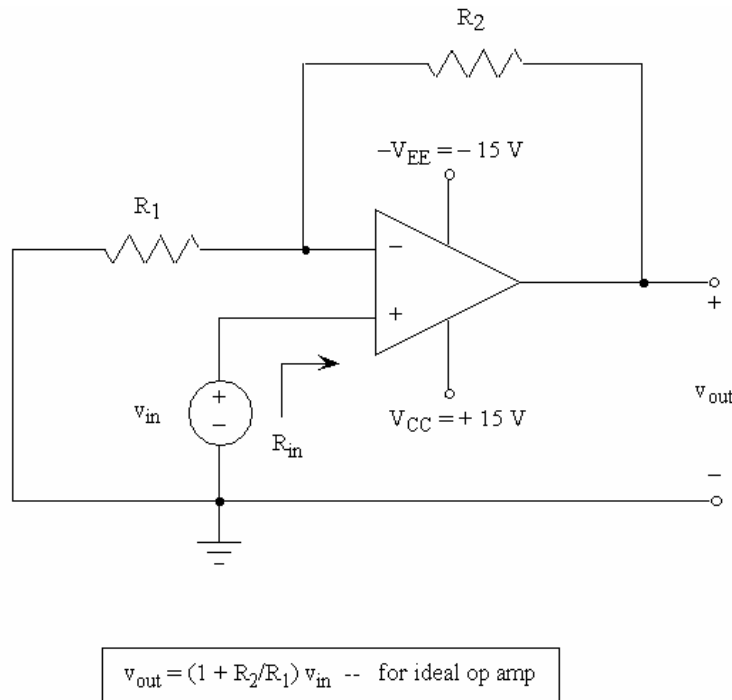

Figure 6: Closed-loop non-inverting op amp configuration.
The second closed-loop (negative feedback) configuration that is studied is the non-inverting configuration shown in Figure 6. In this case, the voltage gain v_{out}/v_{in} is equal to $1 + R_2/R_1$.
1. Using the values of R_1 and gain given for the non-inverting configuration in the *pre-lab* exercise, **(16) include the calculations of R_2 and determine the maximum input voltage signal that can be applied to the amplifier before the output becomes distorted (output clips at ± 14 V).**
2. Using an LF412 op amp, construct the closed-loop inverting op amp circuit shown in Figure 6. Adjust the +6V terminal on the dc power supply to the dc value of V_{in} given in part 2c(i) of the *pre-lab* exercise.
3. Using the DMM, **(17) measure the open circuit output voltage. (18) Determine the experimental gain.**
4. Using the DMM, **(19) measure the current flowing from the source. (20) Determine the experimental input resistance R_{in} (see Appendix) of the *amplifier configuration* (not the device), including the theoretical calculation of R_{in} from the *pre-lab* exercise. (21) Also, measure the voltage at and the current into both the inverting and non-inverting terminals.**
6. Vary the dc input voltage between 0 to +6V. **(22) Make a sketch of V_{out} vs. V_{in} , noting the slope of the linear portion of the plot.**